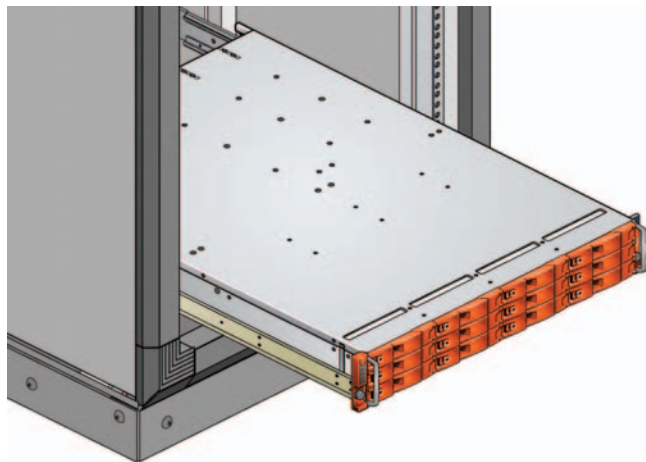

Figure 4: Mounting the System into a Rack
5. Mount the enclosure into the rack as follows (see Figure 4):